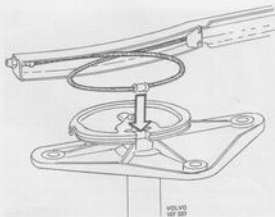

Fig. 3-140. Installing cable for drive link and parallel drive link, left-hand side
1. Place the cable's flange nipple in the segment recess and then lever the cable over the segment, see Fig. 3-140. This work should be done with the greatest care in order not to score the segment or damage it in any other way, as this would lead to disturbance in operation.
1. Place the cable's flange nipple in the large segment recess and thereafter prise the cable over the segment, see Fig. 3-140. Great care should be observed when doing this in order not to score the segment or damage it in any other way, otherwise this might lead to disturbance in operation.
2. Place the drive link cable's flange nipple in the front segment recess and thereafter prise the cable over the segment, see Fig. 3-140. Fit the drive link to the lever on the wiper motor. Tension the cable.